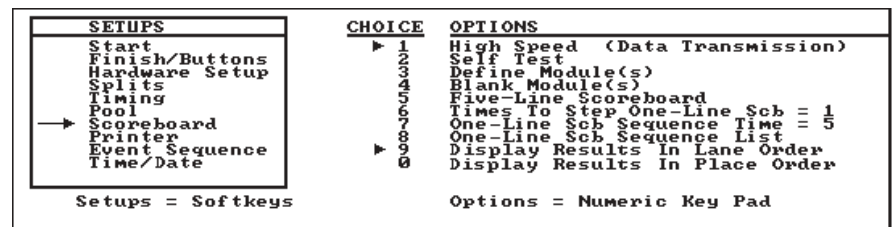

Figure 4-W Scoreboard Setups Window
**Scoreboard module definition is a complex operation which should not be attempted by an inexperienced operator.** Carefully read the Scoreboard section in chapter 2 before attempting to redefine any scoreboard modules. In the Swimming software all scoreboard module logical addresses default to the physical addresses. For example, the physical of the scoreboard module displaying data for lane 1 is 01, so the logical address is also 01. If you want the lane 1 (01) scoreboard module to display line 10's data set its logical address in this setup to 0A. On the module definition window, as shown in Figure 4-X, the physical addresses appear on the left, the redefined logical addresses on the right.